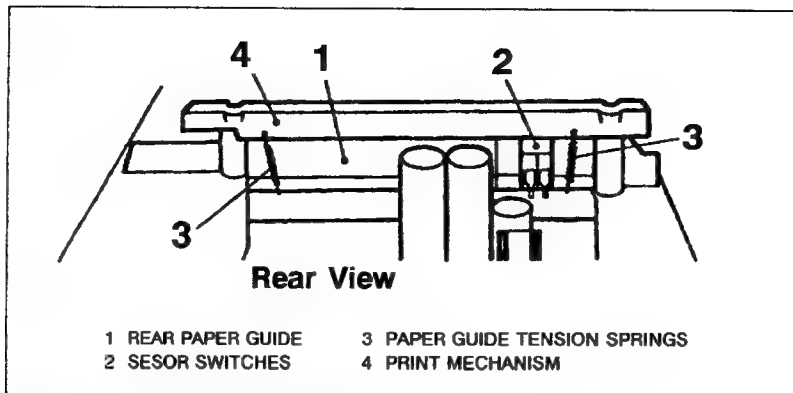

Figure 6-16. Print Mechanism Sensor Switches
- c. Remove the two springs which tension the rear paper guide to the print mechanism (see Figure 6-16, item 3).